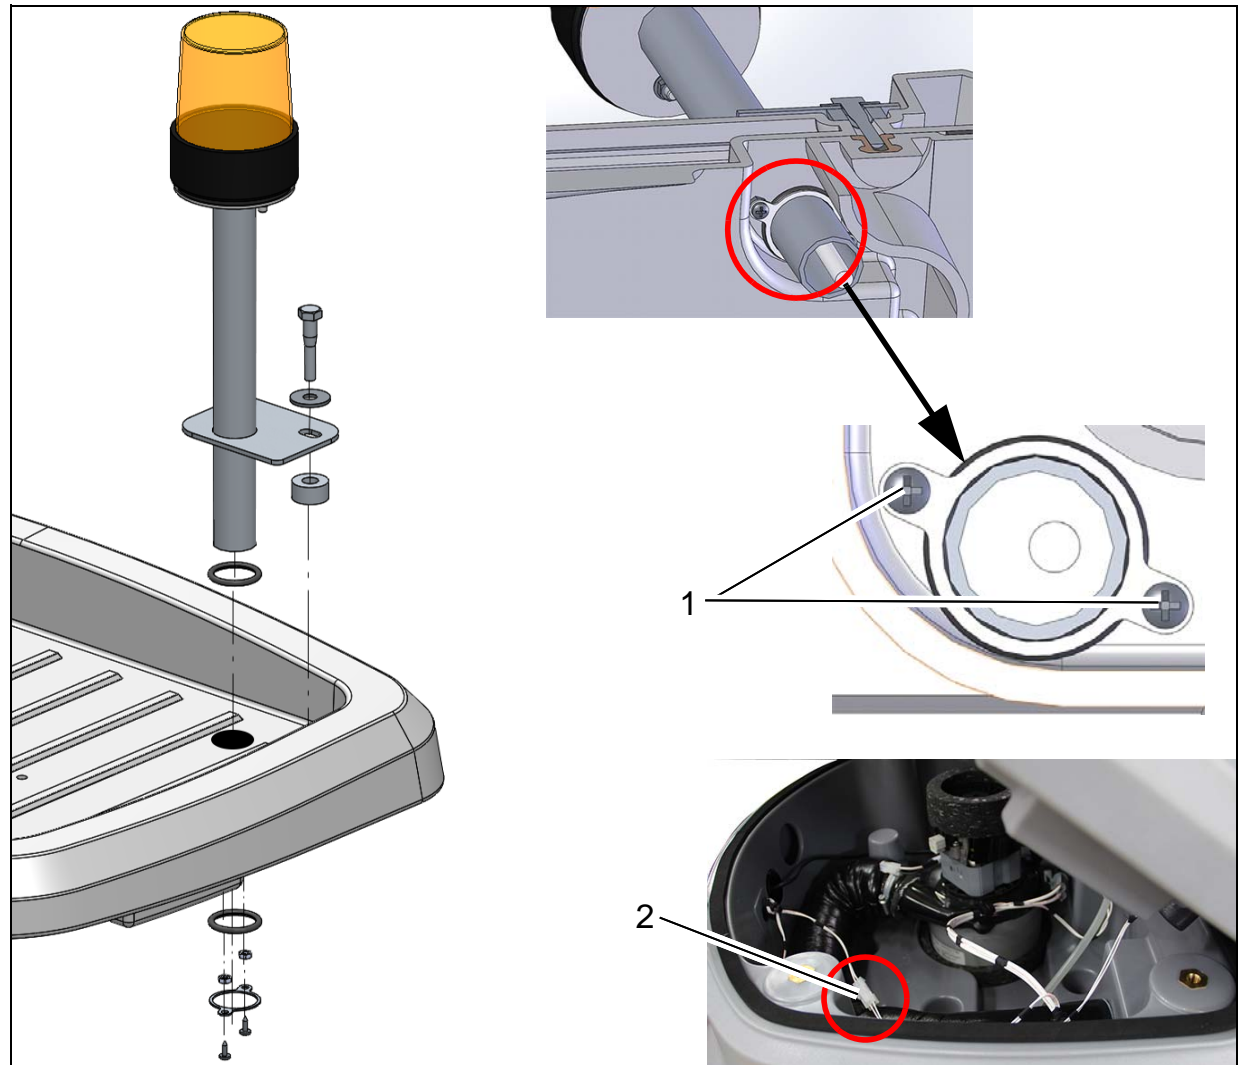

Fig. 3
2. Secure inner O-ring with plate. To do this, align sheet metal screws with spacer nuts (Fig. 3/1) and screw in by hand.
3. Connect connector X48 of cable loom W65 of flashlight to connector X48 of cable loom W10 (Fig. 3/2).